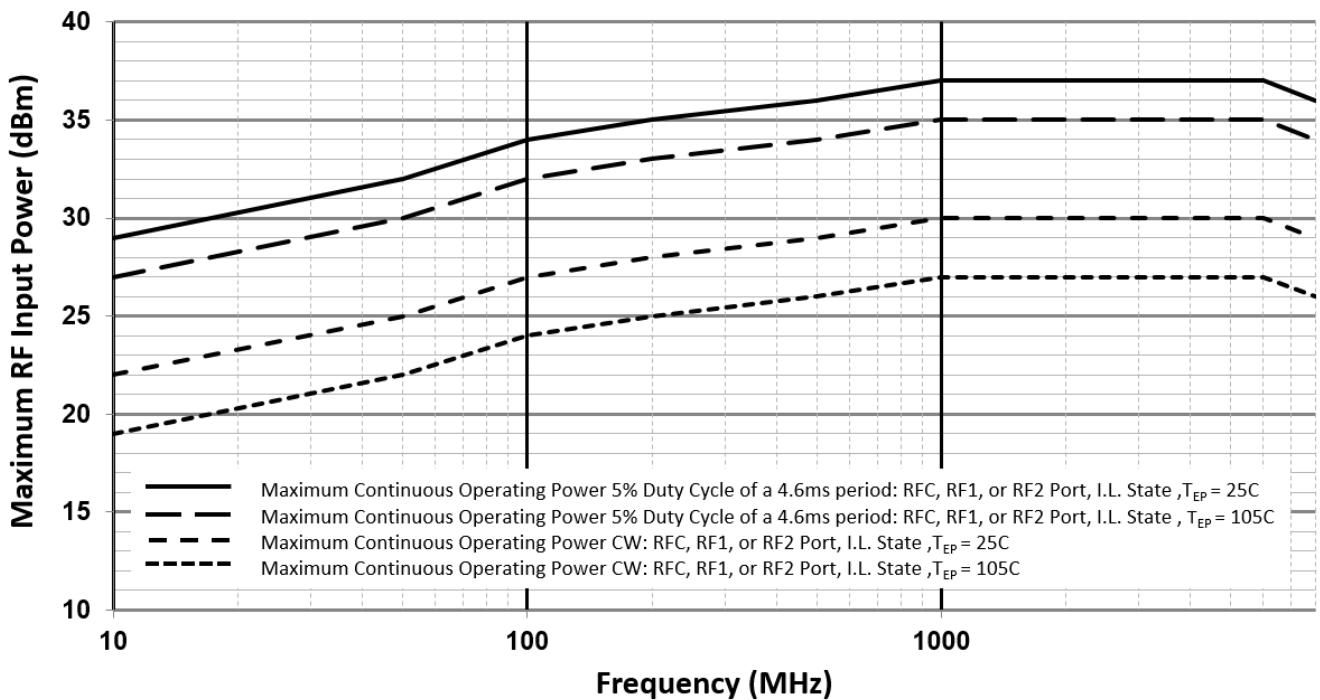

Figure 3. Maximum RF Input Operating Power vs. RF Frequency ($Z_S = Z_L = 50\Omega$)
2. Levels based on: $V_{CC} = 2.7V$ to $5.5V$, $100MHz \leq f_{RF} \leq 8GHz$, $Z_S = Z_L = 50\Omega$. See Figure 3 for power handling derating vs. RF frequency.
3. The input 1dB compression point is a linearity figure of merit. Refer to the Absolute Maximum Ratings section and Figure 3 for the maximum RF input power.